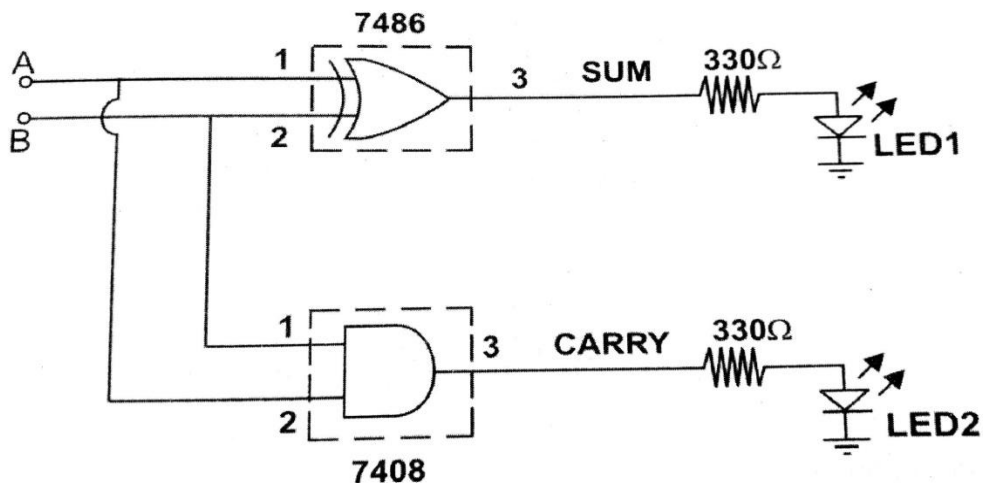
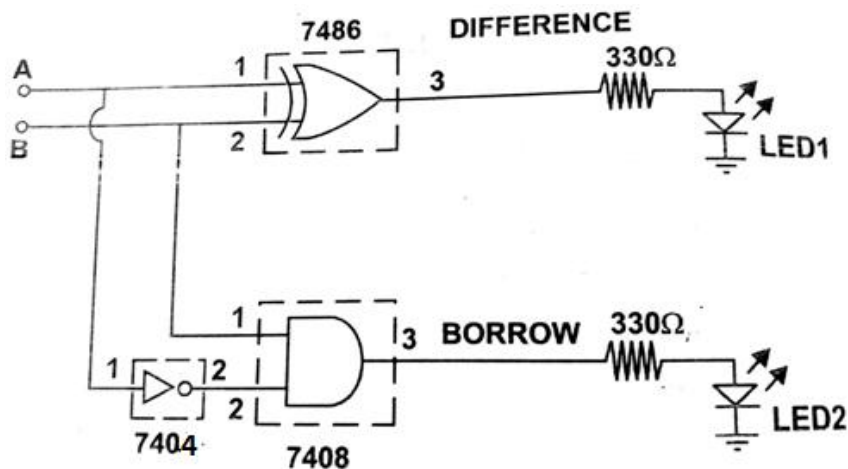

Figure 1. Half Adder
Figure 2. Half Subtractor
4. Make the connections as per the logic diagram given in Figure 1. for adder and Figure 2. for subtractor respectively.